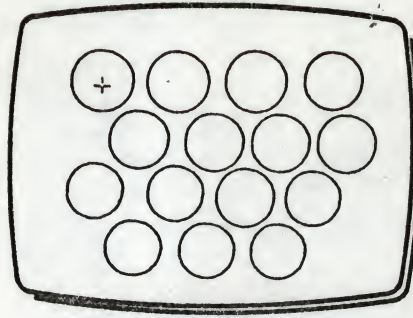

Fig 2
- 2 Draw a number of circles, keeping them separate, as shown in Fig 2.